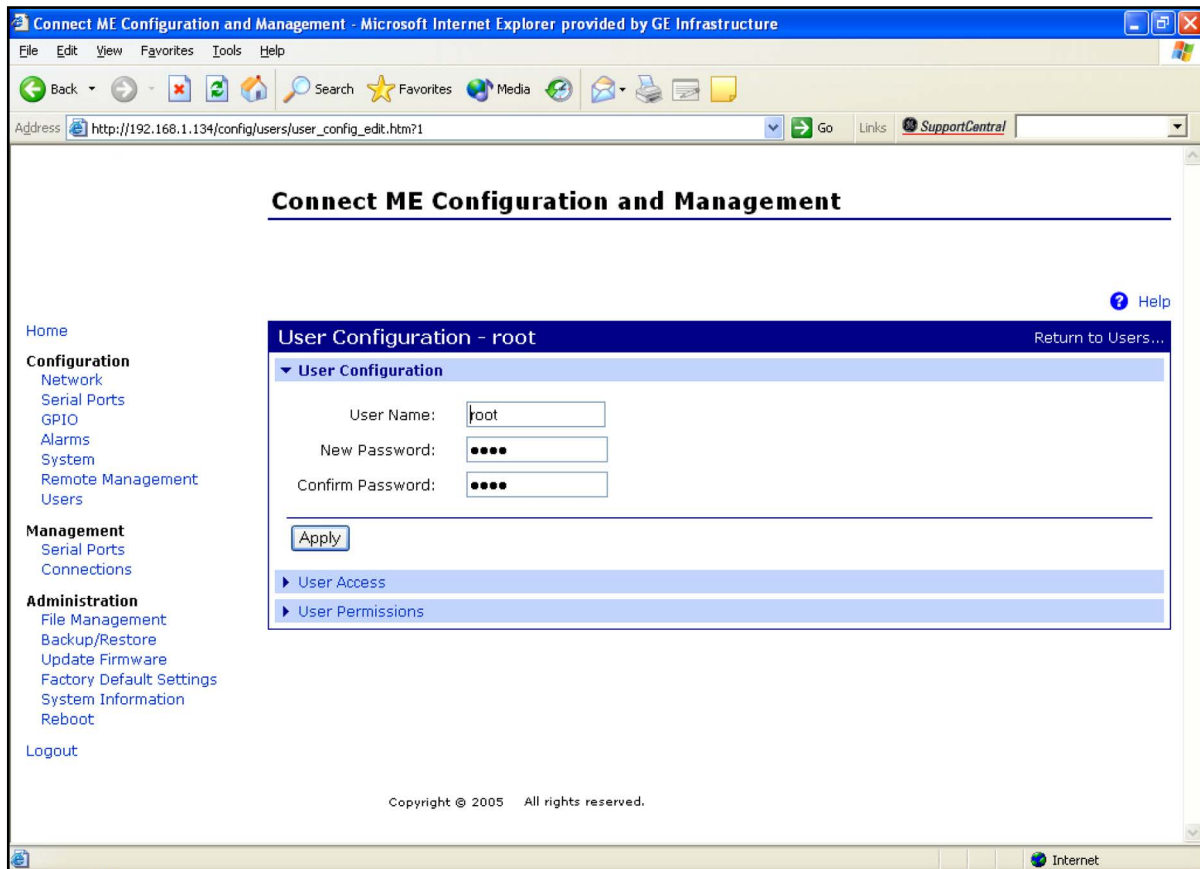

Figure 26: Changing the User Name and/or Password
5. Click on **New...** *Figure 26 on page 56* appears.